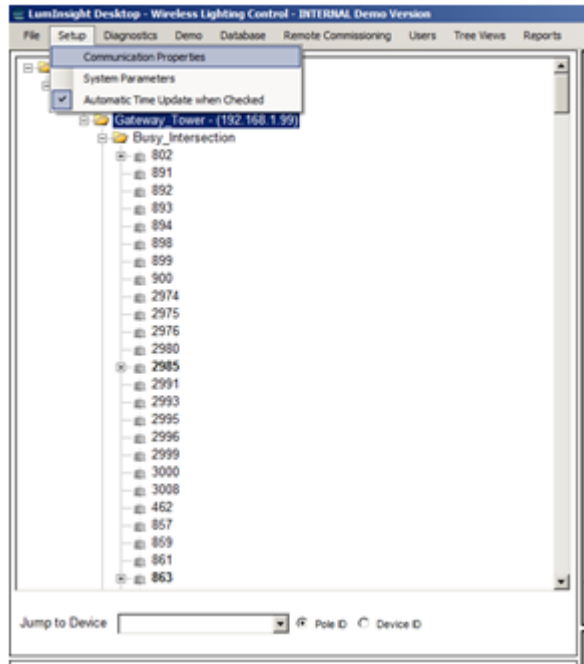

Figure 22. Setup for Communication Properties
16. Select **Communications Properties**, as shown in Figure 22.